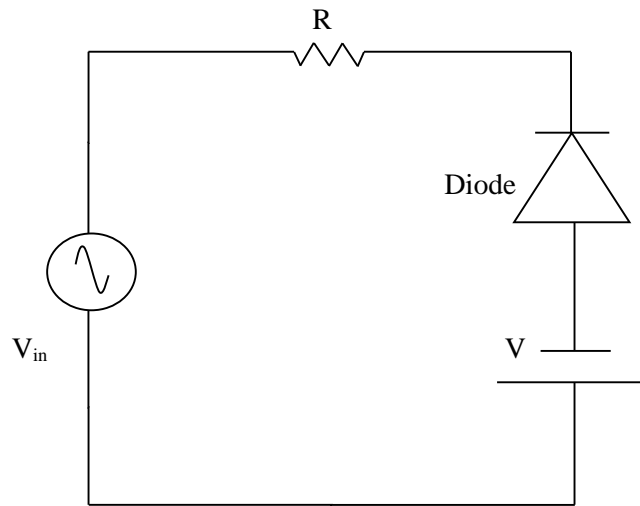

Fig 5.6 Biased Negative parallel clipper
5. Connect circuit as shown in Fig 5.6 below: